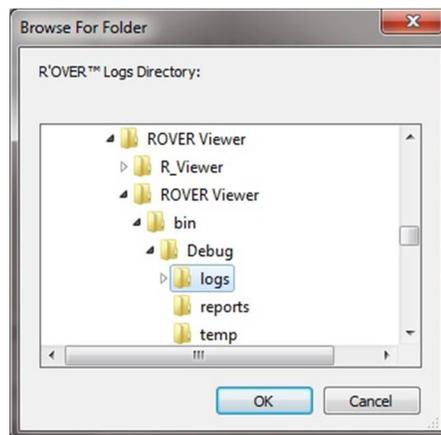

Figure 2
3. The initial default location for log files is Documents\Stability Dynamics\ROVER Viewer\Logs, but the application will always use the last directory used as the new default. If no log files are found in the default location, a folder browser window will open to allow the user to browse to the folder where the files exist (Figure 2).